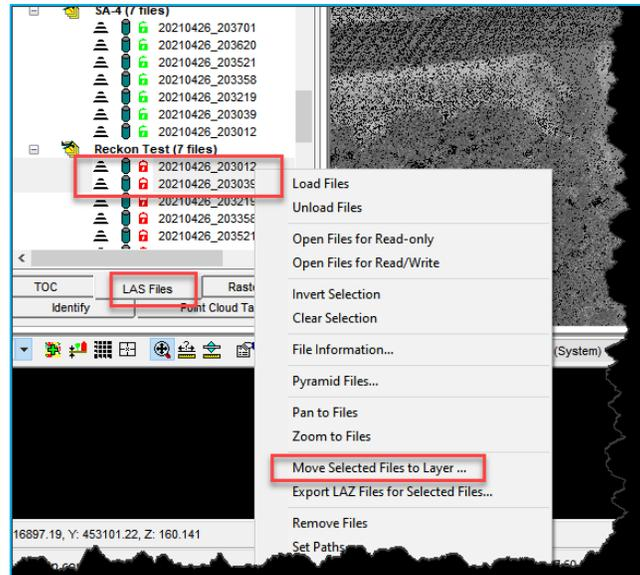
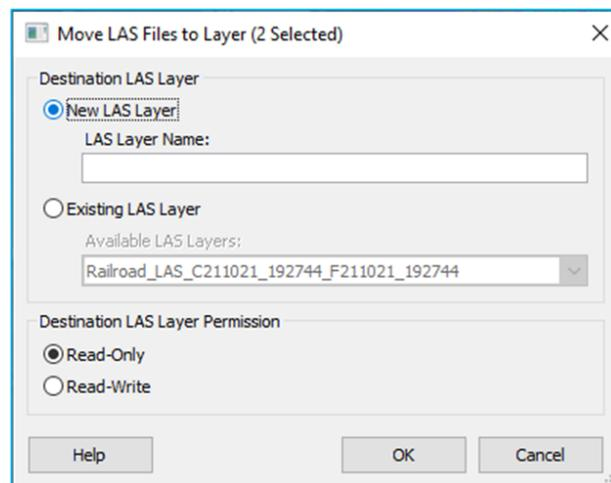

Figure 177 - Invoking the Move Selected File(s) to Layer Command
Figure 178 - Move Selected Files to Layer command dialog
- For more selective processing you might select individual LAS file(s) in the LAS Files tab and use the right-click -> **Move Selected File(s) to Layer** command (Figure 177) to open the Move LAS Files to Layer options dialog (Figure 178). This command allows you to move one or more LAS files from one LAS Layer to another. You can also create a new destination LAS Layer with this command.